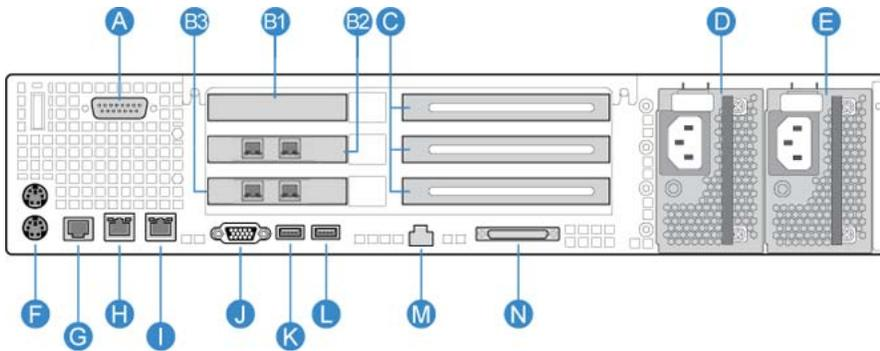

Figure 36: 1005r server rear panel
Figure 36: 1005r server rear panel on page 105 shows the rear panel of the 1005r server with the three full-height PCI card slots (C). The MPB96 voice processing boards occupy one or three full-height slots. In the following diagram, the card slots are numbered from 1 to 3 starting at the top.